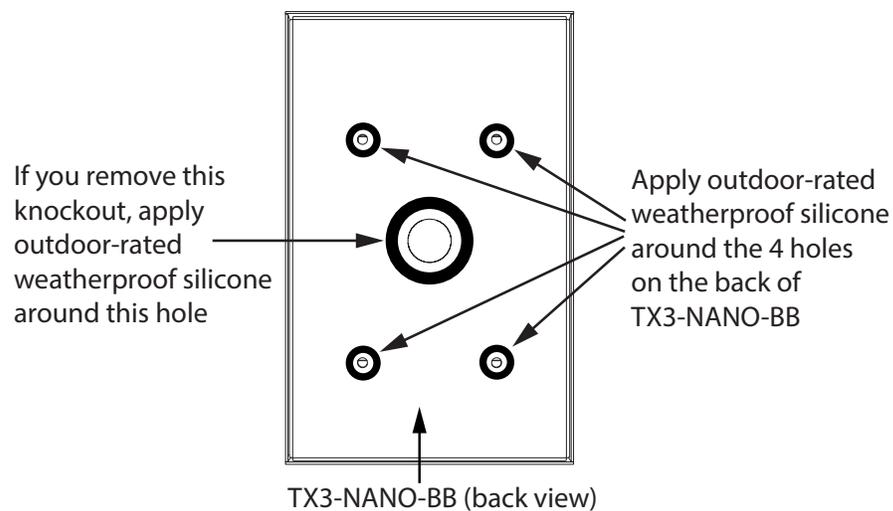

Figure 5. Apply silicone around the holes on the back of TX3-NANO-BB
1. To prevent water from flowing into the TX3-NANO-BB mounting box, apply outdoor-rated weatherproof silicone around the 4 holes on the back of the mounting box (the side against the wall) as shown in Figure 5. If you remove the knockout, apply outdoor-rated weatherproof silicone around that hole as well.